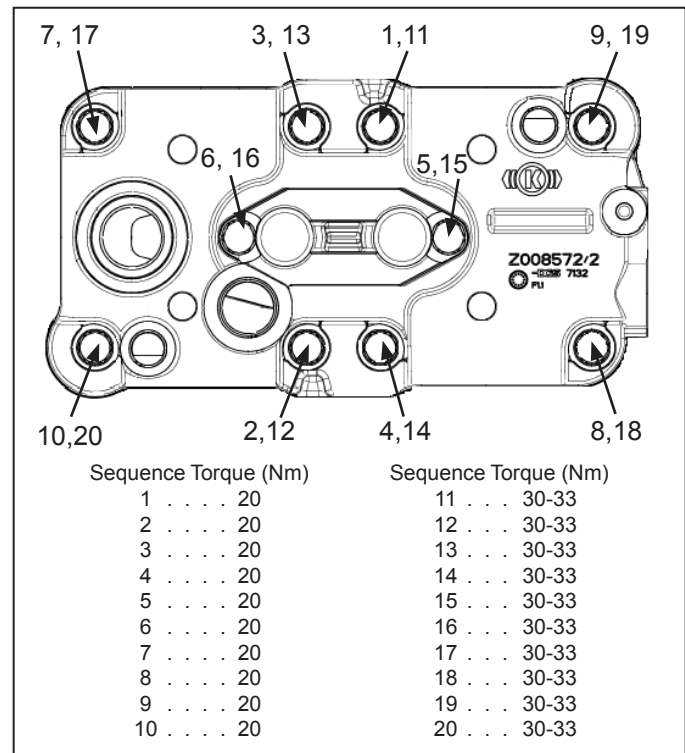

**Figure 6 – Bendix® 720cc Compressor Head Gaskets Position**
1. Install the two crankcase o-rings (H) into the countersunk holes on the deck of the crankcase.
2. Note the position of the two protruding crankcase alignment pins on the deck (top) of the crankcase. Install the metal inlet reed valve/gasket (C) over the alignment pins on the crankcase; being careful not to disturb the crankcase o-ring (H).
4. Position the first embossed metal head gasket (B) over the alignment bushings protruding from the top of the cooling plate. Position the second embossed metal head gasket (A) over the alignment bushings on the opposite side of the cooling plate. When properly positioned, the outline of the two embossed gaskets match the outline of the cooling plate and the machined sealing surfaces on the cooling plate will be covered by the embossed metal gasket material. **Important: The two gaskets are different and must be installed on the proper side of the cooling plate for the compressor to function properly. See Figure 6 for proper head gasket identification positions.**